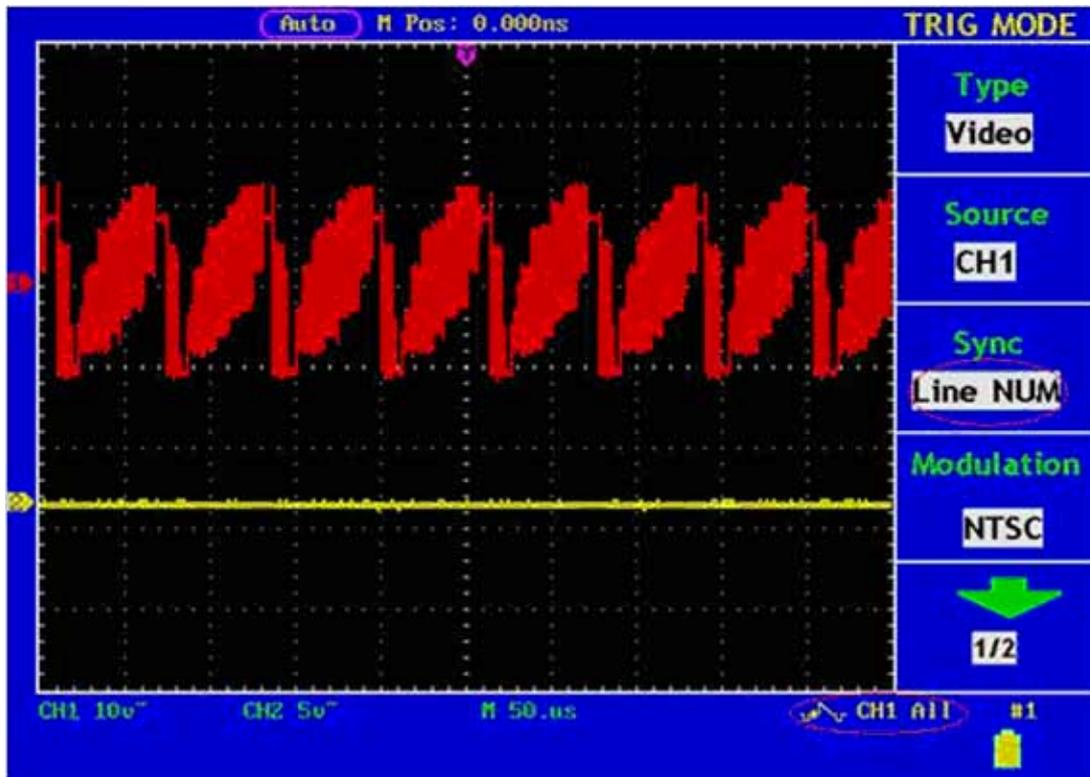

Fig. 35 Wave Form Triggered in the Line Num
8. Press the **F3** menu selection button again and choose **Line num** for Slope. The screen display is shown as Fig. 35.